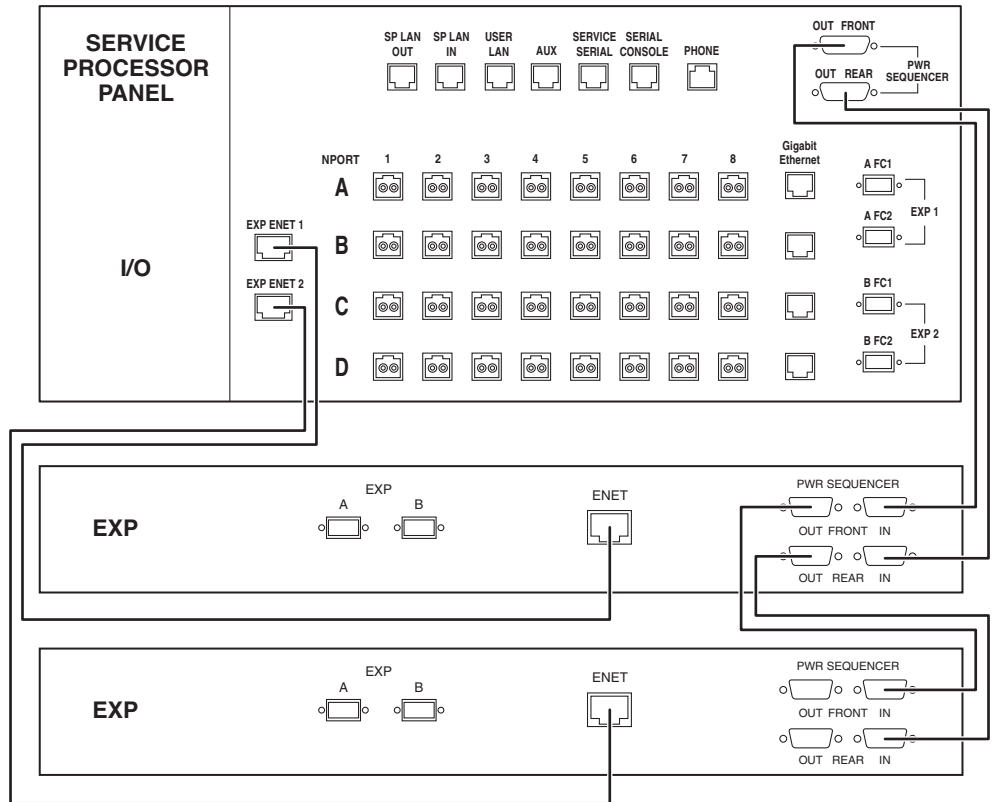

FIGURE B-5 Ethernet and Power Sequencer Cabling Between the Base Cabinet, Expansion Cabinet 1, and Expansion Cabinet 2
2. If you are connecting two expansion cabinets, connect two Ethernet cables and four power sequencer serial cables (P/N 530-3210-01) between the base cabinet and the two expansion cabinets as shown in FIGURE B-5.